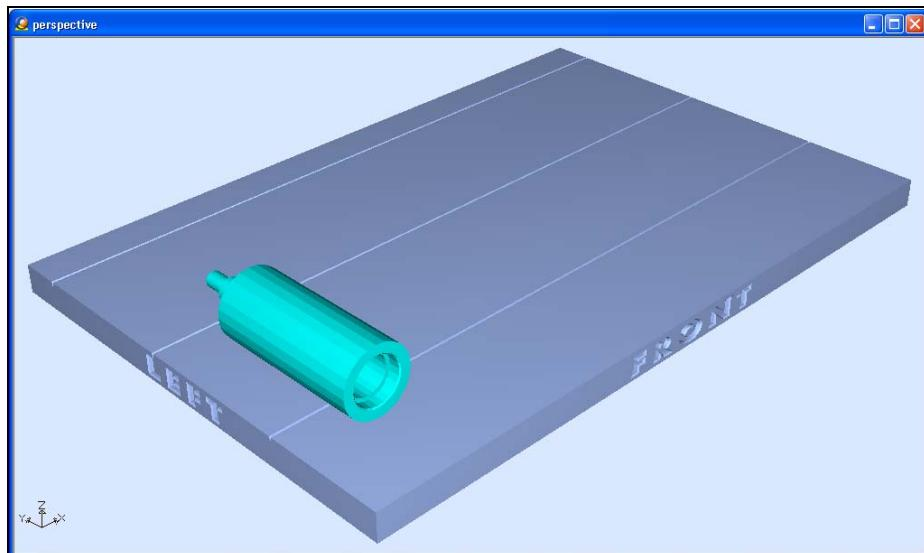

Figure 5-10: 1-view screen layout
- 1 View** expands the *perspective* view to fill the screen (see figure 5-10).